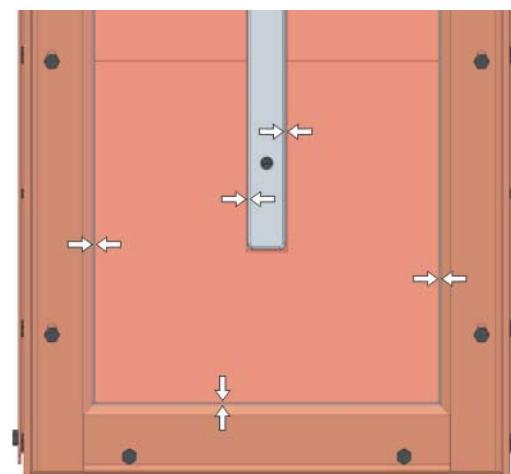

Fig. 7-14 Check the installed target
- 21 Make sure that there is a narrow gap between the outer target edges and the anode frame and between the inner target edges and the covers of the inner clamping, see arrows in Fig. 7-14, □ 214.